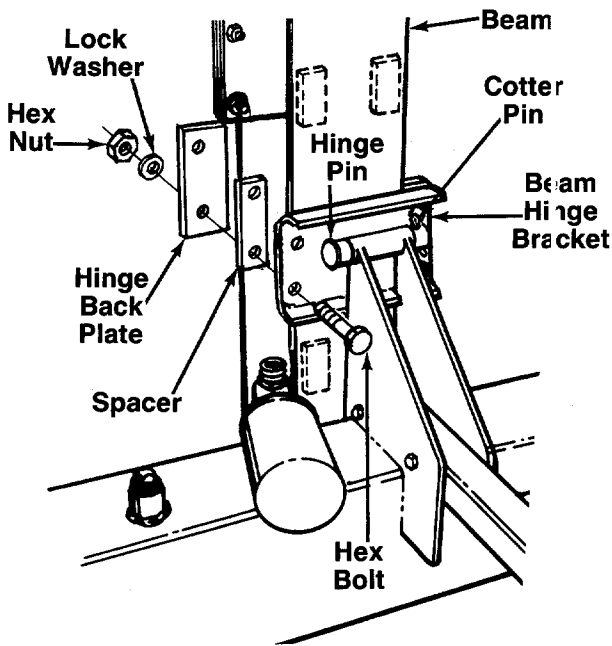

FIGURE 5.
2. Remove the cotter pin from the hinge pin, located on top of the reservoir tank assembly. Place the beam hinge bracket in position on the reservoir tank assembly as shown in figure 5. Secure with hinge pin and cotter pin just removed.
3. Using two 9/16" wrenches, remove two hex bolts, lock washers, hex nuts and the hinge back plate and spacer from one side of the beam hinge bracket. Move the reservoir tank assembly in position against the beam, sliding one edge of the beam into the beam hinge bracket. See figure 5.
- a. **Vertical operation:** Loosen the four bolts on the beam hinge bracket. Refer to figure 5. Pull the locking rod out and pivot it down to release the beam. Move the beam as far from the hitch as possible, then place the beam in the vertical position. Tighten the hex nuts and bolts on the beam hinge bracket so the log splitter and beam sit flat on the ground.